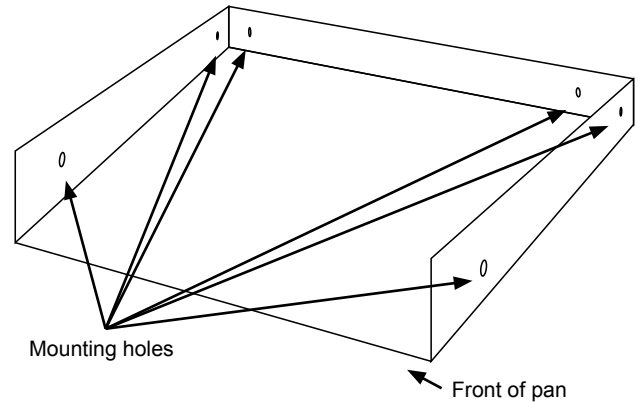

Figure 1. Fold rear and sides to create a channel.
1. Fold the rear and sides creating a channel as shown in Figure 1.